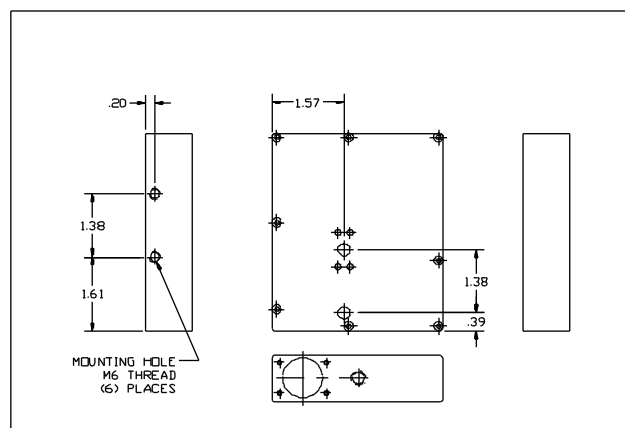

Figure 5-21. Mounting-Hole Dimensions
1. Mount the sensor (Figure 5-21).